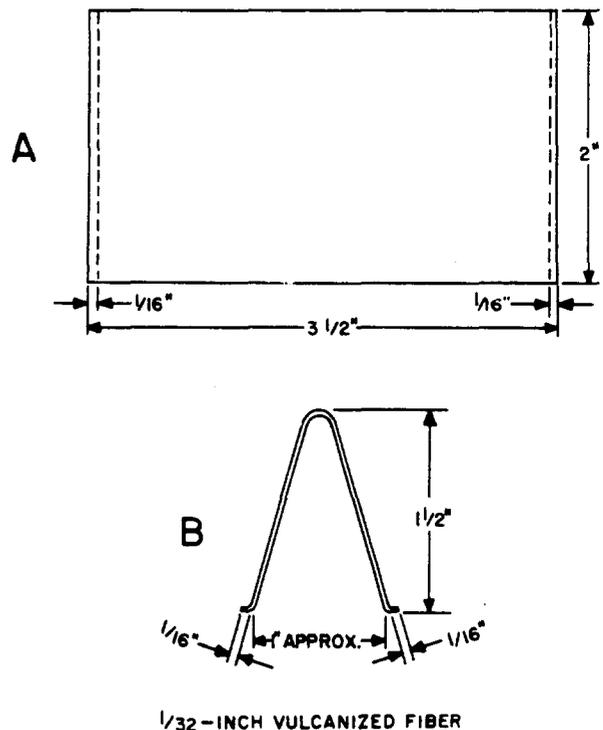

Fig. 1 - Insulating Shield for Protector Springs
- (1) Cut a piece of 1/32-inch thick vulcanized fiber to the dimensions shown in A, Fig. 1.
- (2) Soak the fiber in water.
- (3) Bend the fiber to the shape shown in B, Fig. 1.
- (4) Allow the fiber to dry thoroughly before using.
4.01 Adjacent springs on the same side of the protector strip should be protected from crosses which might be caused by the wire cleaning brush. Use the insulating shield shown in Fig. 1 for this purpose. Hold the sides of the shield together and insert the shield between the springs to be cleaned and the springs of the protector directly above and below.